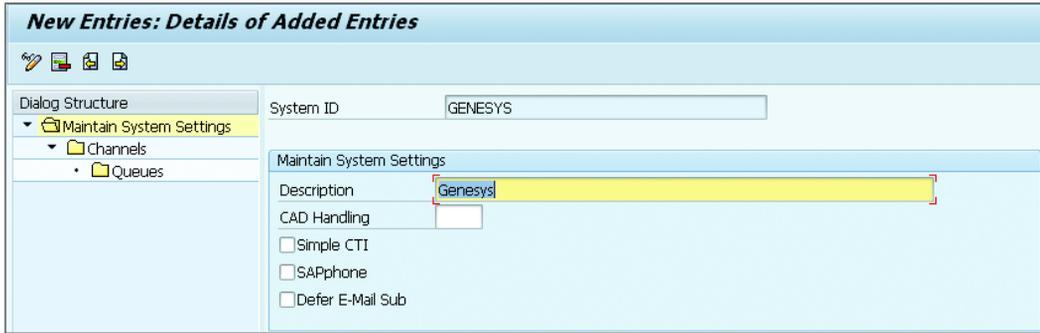
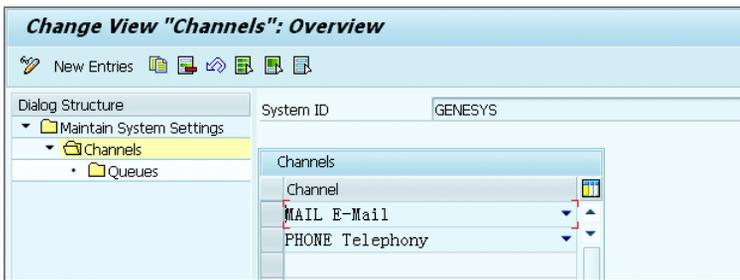

Figure 9.7 Maintain System Settings
Figure 9.8 Maintain Channels for the CMS
3. Navigate to INTERACTION CENTER • INTERACTION CENTER WEBCLIENT • ADMINISTRATION • COMMUNICATION MANAGEMENT SOFTWARE • MAINTAIN SYSTEM SETTINGS. In Figure 9.7, maintain the system settings for CMS, including the channels you want to integrate, for example, telephone, email, chat, and so on. Figure 9.8